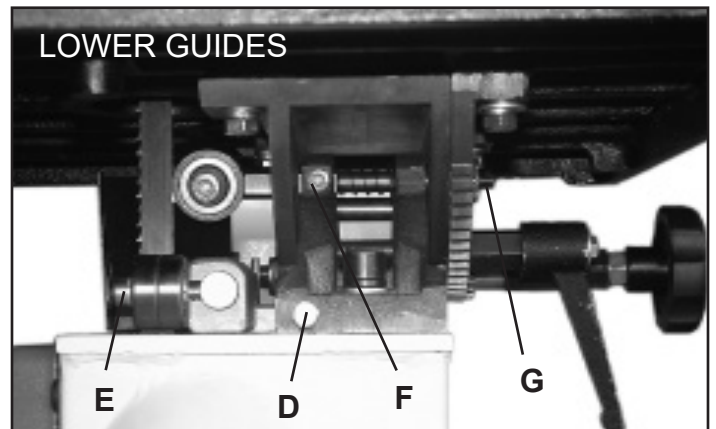

FIG. 22
1. Loosen the hex nut (#74B, FIG. 22, D), then move the lower guide carrier casting to allow the front bearings to be approximately 1/16" behind the gullets of the bandsaw blade, and tighten the hex nut to set the bearings in place.